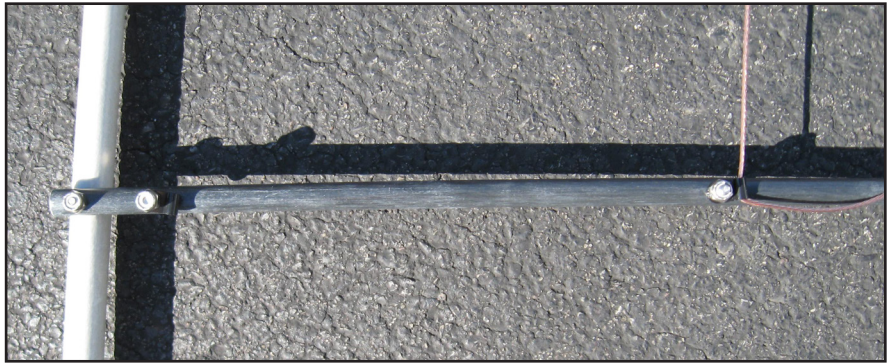

Fig. 75
- **At the Driven End of the antenna,** temporarily remove the 10-24 SS Anti-vibration Hex Nut and Black Cable Clamp, then insert the wire. Replace the Black Cable Clamp with wire and the Hex Nut on the Machine Screw and tighten well. Position the Black Cable Clamp as shown in Fig. 75.